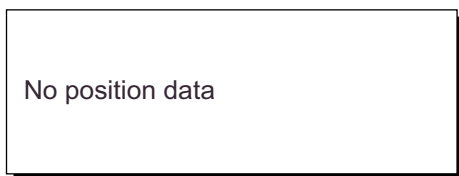

Figure 5-1
**Note 1:** Destination cannot be set when there is no GPS position data. When there is no position data, the buzzer sounds and the message shown in Figure 5-1 appears.